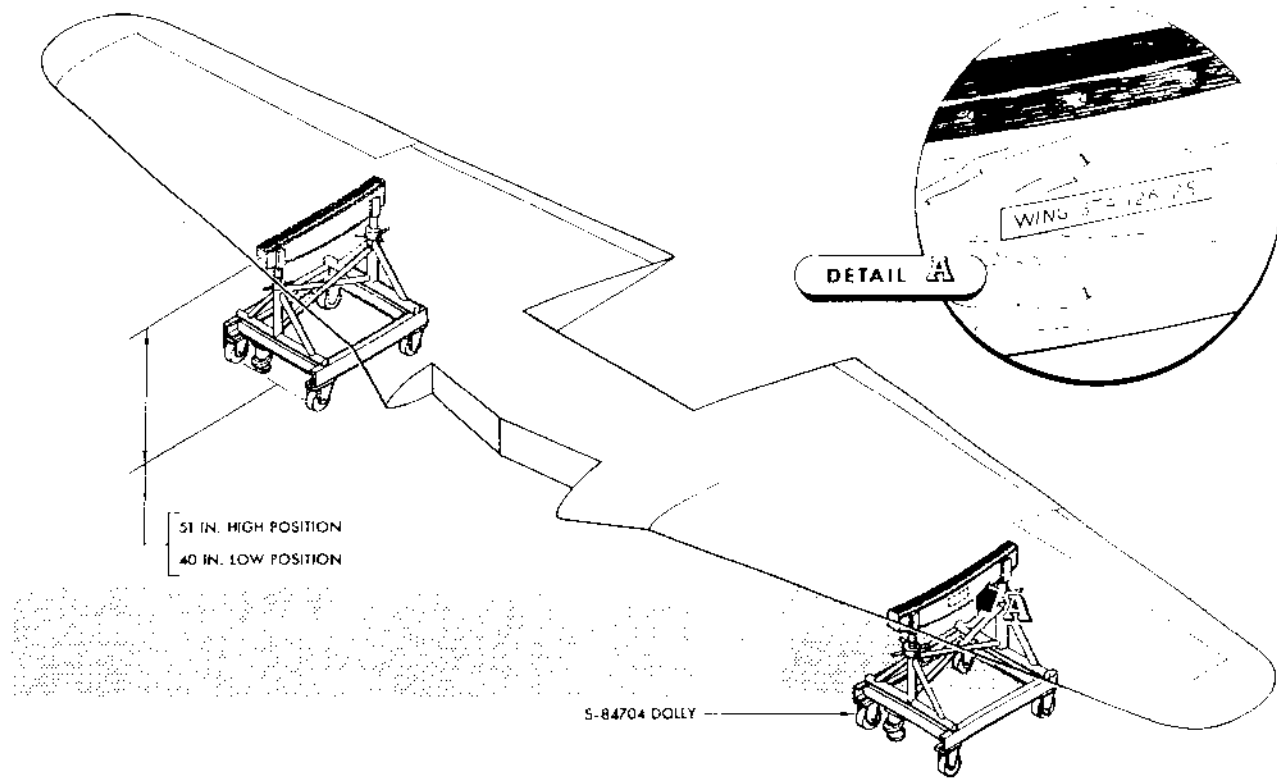

Figure 14 — Storage Dolly for Wing
(2) WING. (See figure 14.) — A dolly, No. S-84704, should be used to support the wing in two places for major overhaul, handling, or storage. Each end of the dolly can be adjusted independently of the other, through a range of 40 to 51 inches in height. Two floor locks are provided on the under carriage to hold the dolly in place.